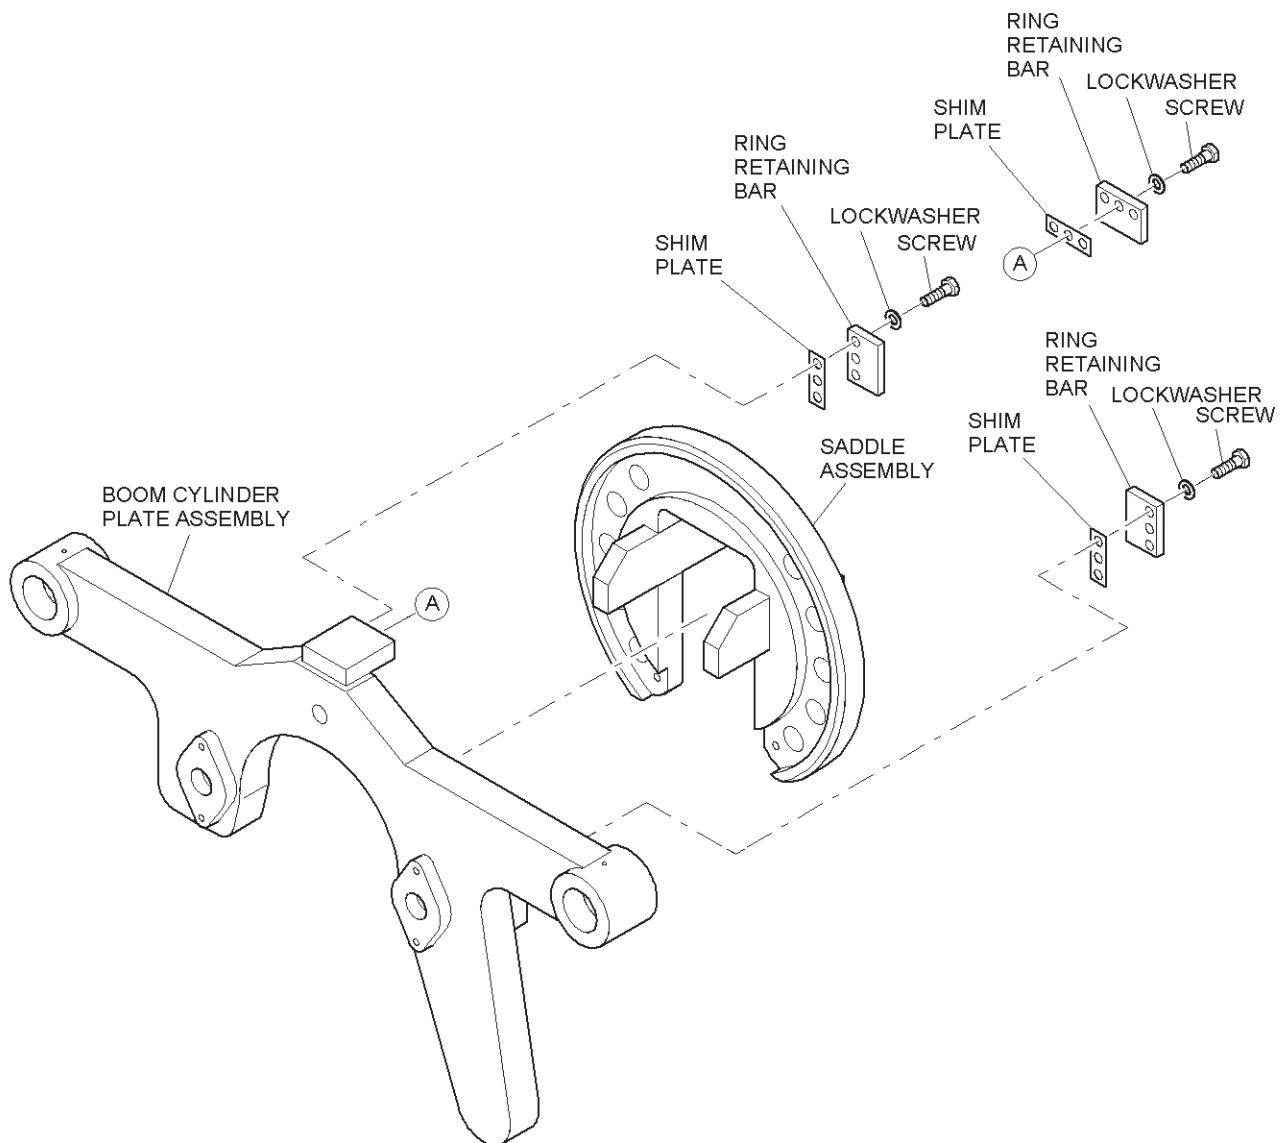

Figure 7-13. Shoe Saddle Guide
1. Retainer bars, Figure 7-13, should move freely around saddle assembly.